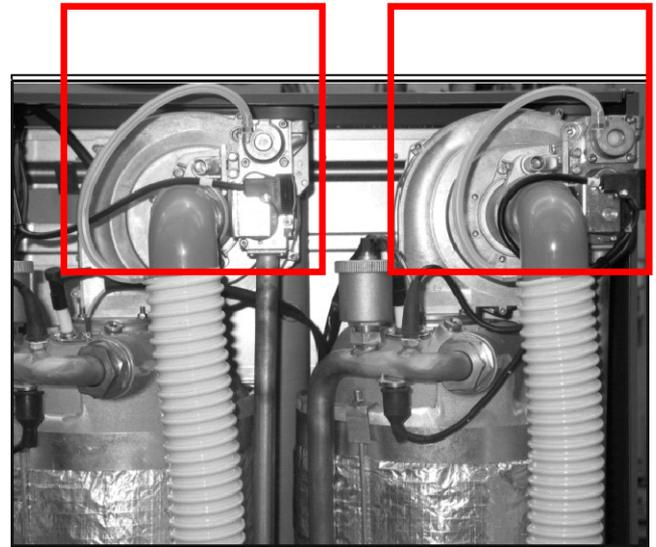

Figure A3
2 Figure A3 shows the gas valve and air inlet assemblies of the boiler. Where the boiler has two (2) modules then both modules will need to be modified for LPG gas supply.